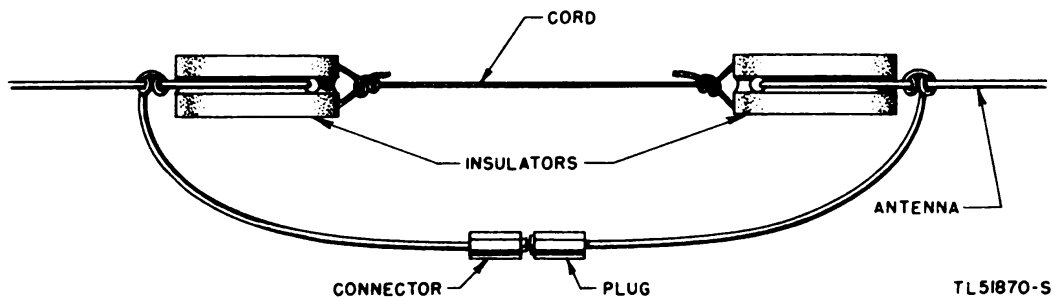

Figure 14. Connection of 50-foot and 100-foot antennas.
(1) Unwind either the 50-foot or the 100-foot antenna wire and attach one end of the ANTENNA binding post on the receiver-transmitter front panel. The long antenna should be used for operation on the low frequencies and the short antenna for operation on the high frequencies. If necessary, on the lower frequencies the two antenna wires may be connected together (fig. 14) to form a 150-foot antenna.